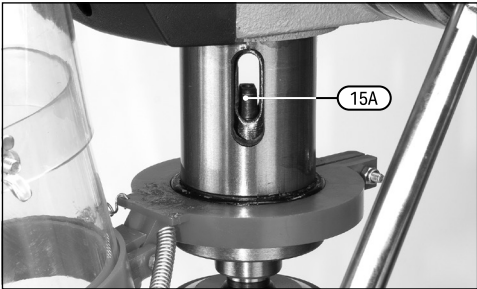

Fig. 21
8.3 Arbor Removal (Fig.21 – Fig.22)